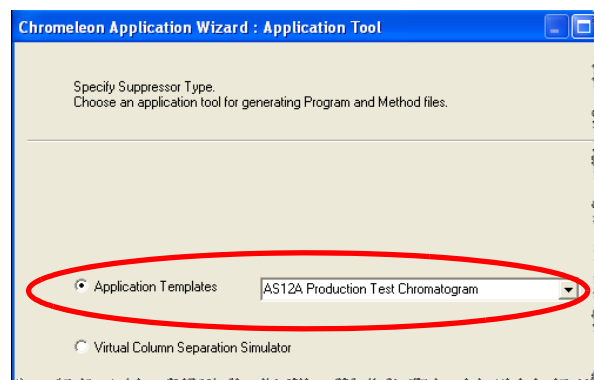

Figure 34. Example Application Wizard: Application Tool
3. On the Chromeleon Application Wizard, click **Application Template**, and then select a template from the list. See the example in Figure 34.